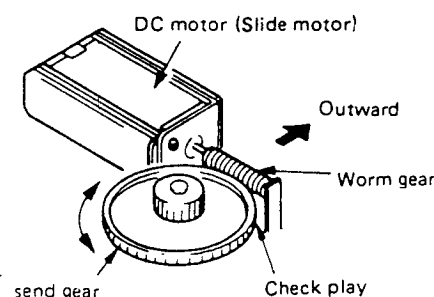

Fig. 21
- [4] When installing the DC motor assembly, take care not to damage the worm gear. After installation, check the play between the worm gear and send gear. If there is no play move the DC motor assembly outward. (Fig. 21)